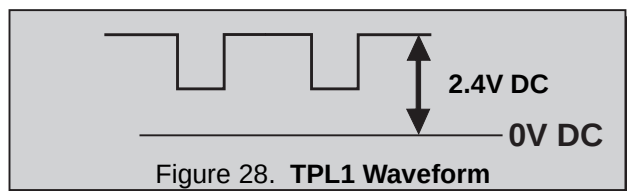

Figure 28. TPL1 Waveform
4. Observe the oscilloscope waveform at Horizontal rate and adjust the Service Mode Sub-Bright DAC (B02) level until a scanning period of **2.4V** above DC ground is measured, as indicated in Fig. 28.